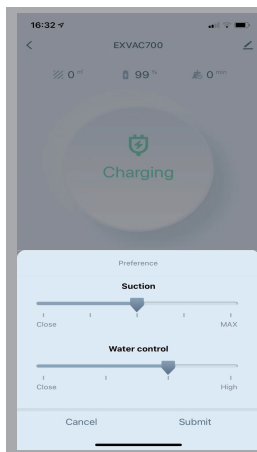

Fig. 18
- Users can set the vacuum suction with quiet, standard, power and Max four levels, set the water level when robot works with mopping mode (Fig.18).